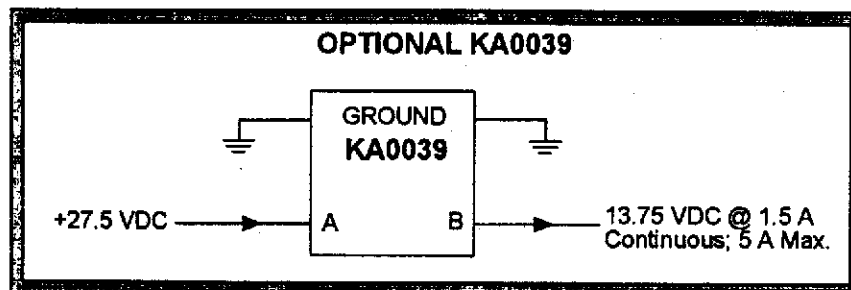

Figure 2-2. Interconnect and Wiring Diagram.
AFTER INSTALLATION OF THE CABLING AND BEFORE INSTALLATION OF THE EQUIPMENT, A CHECK SHOULD BE MADE WITH AIRCRAFT PRIMARY POWER SUPPLIED TO THE MOUNT CONNECTOR TO ENSURE THAT POWER IS APPLIED ONLY TO THE PINS SPECIFIED IN THE INTERCONNECT DIAGRAM, FIGURE 2-2 ON PAGE 2-4.
Figure 2-2 on page 2-4 is a detailed interwiring diagram for installations. The interwiring diagram requires thorough study before installation of the aircraft wiring.
Cabling must be fabricated in accordance with Figure 2-2. The length of the wires to parallel pins should be approximately the same length, so that the best distribution of current can be effected. BK Radio recommends that all wires, including spares as shown on the interwiring diagram, be included in the fabricated harness. However, if full wiring is not desired, the installer should ensure that the minimum wiring requirements for the features and functions to be used are incorporated.
Notes on the interwiring diagram, Figure 2-2, describe wire sizes and other particulars related to the system interwiring.
- (1) The installing facility will supply and fabricate all external cables following the instructions provided as per Figure 2-2. The required connectors are supplied as part of the Installation Kit.
- (2) The KFM0985 and the associated wiring harness must be kept a minimum of three feet from the transceiver/receiver antenna coax and the termination connector of the antenna to prevent RF interference from the antenna.
- (3) Do not route the transceiver/receiver antenna coax near ADF sense or loop antenna cables.
Power connection requirements are shown on interwiring diagram Figure 2-2.
All connections and mating connectors for the KFM0985 units are identified on the appropriate outline drawing, Figure 2-2.